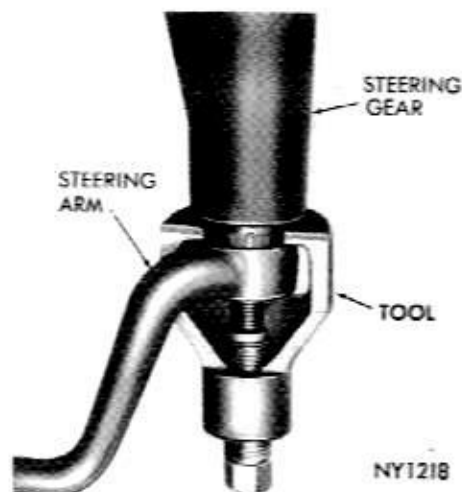

Fig. 4—Removing Steering Gear Arm
(1) Remove steering arm nut.
(2) Disconnect steering gear arm from sector shaft with Tool C-3646 (Fig. 4).